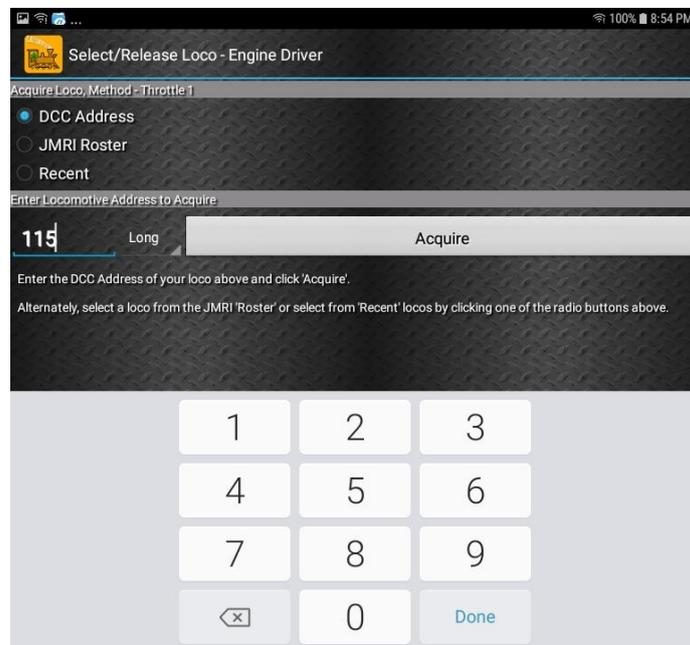

Figure 22 Selecting a locomotive by typing its DCC Address
(12)The Throttle screen should then appear, ready to select a loco and drive. Tap the Select button, check the “DCC Address” option and type the address of your locomotive either short or long as in Figure 22. Tap Acquire.